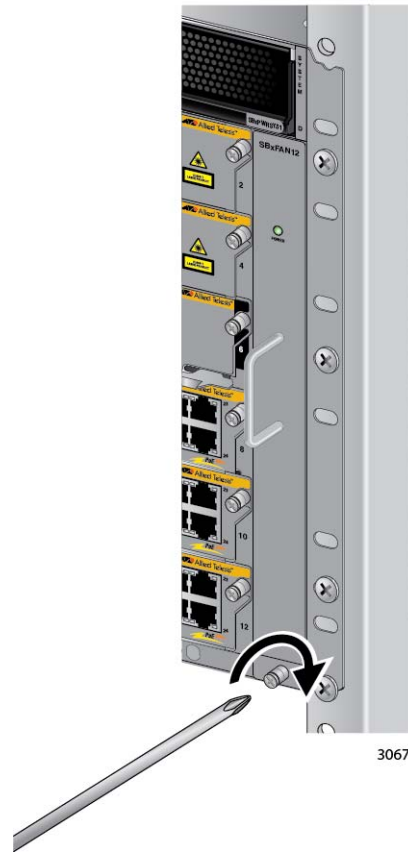

Figure 162. Tightening the Screw on the AT-SBxFAN12 Fan Module
3. With a #2 Phillips-head screwdriver, tighten the screw at the base of the module to secure the module to the chassis. Refer to Figure 162 on page 250.